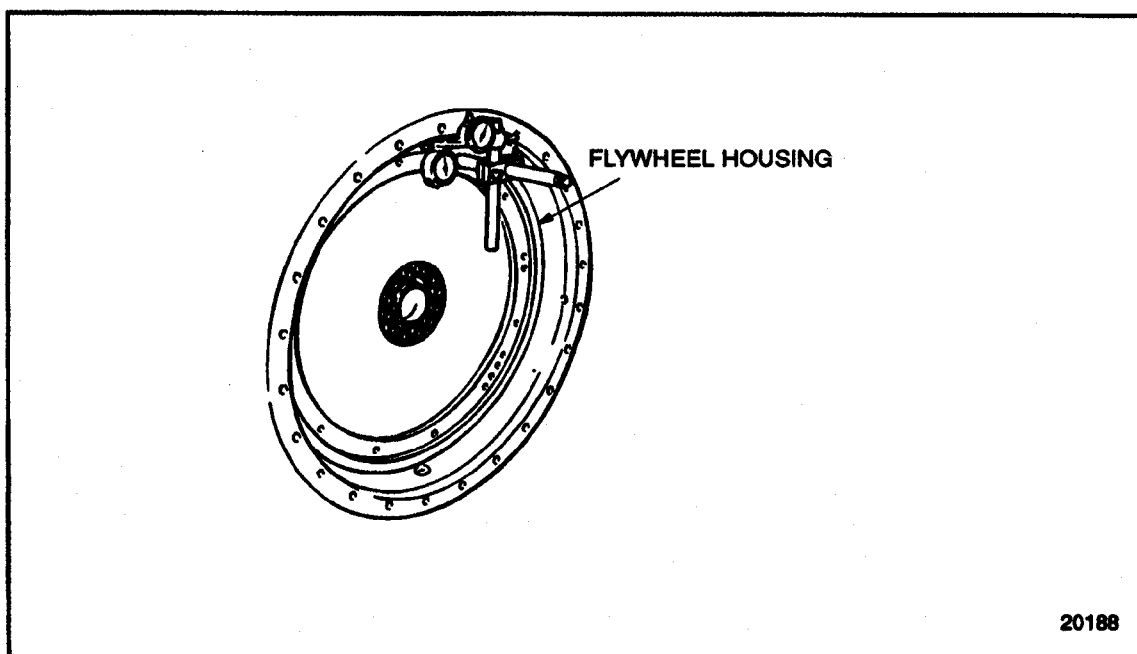

Figure 1-235 Measuring Flywheel Housing Bore Concentricity and Bolting Flange Run-out
3. Position the dial indicators straight and square with the flywheel housing bell face and inside bore of the bell. Make sure each indicator has adequate travel in each direction. See Figure 1-235.